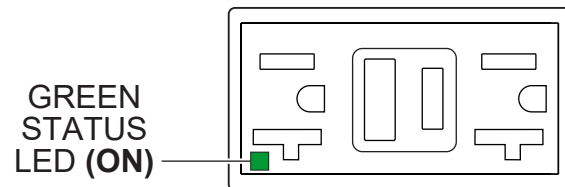

Figure 78. GFCI Receptacle (ON)
3. Verify that the status LED on the corresponding GFCI receptacle (Figure 78) is **ON (GREEN)**.